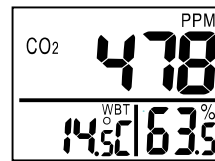

Fig. 2
3. Press "**▲/DP/WB**" to switch temperatures display. The lower left display will cycle from air temperature, dew point temp., and wet bulb temp. (*Fig. 2*)